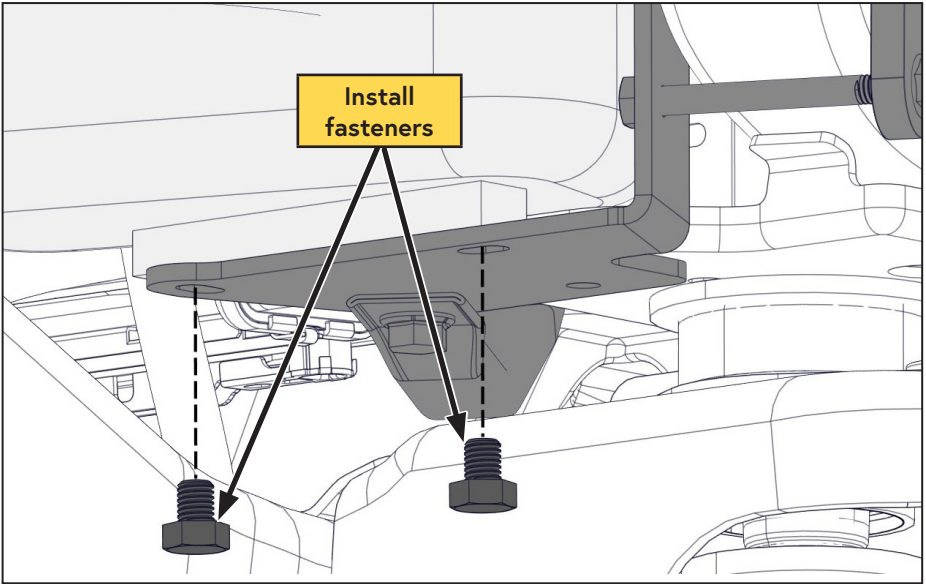

Figure 44 — Install bottom cooler fasteners
- ☐ Install the (x2) bottom cooler fasteners (Figure 44).